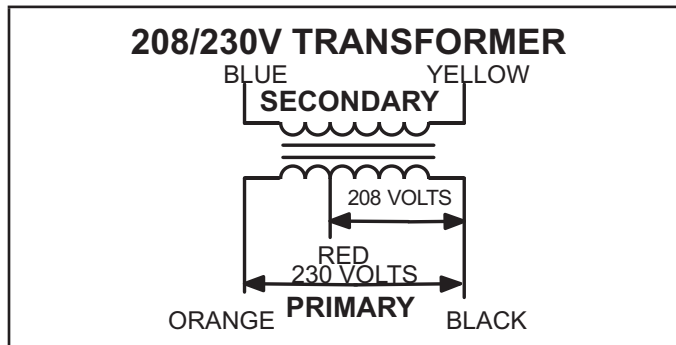

FIGURE 3
All use a single line voltage to 24VAC transformer installed in the control box. The transformer supplies power to control circuits in the unit. The transformer is rated at 70VA and is protected by a 3.5 amp circuit breaker (CB8). The 208/230 (Y) voltage transformers use two primary voltage taps as shown in FIGURE 3, while 460 (G) and 575 (J) voltage transformers use a single primary voltage tap.